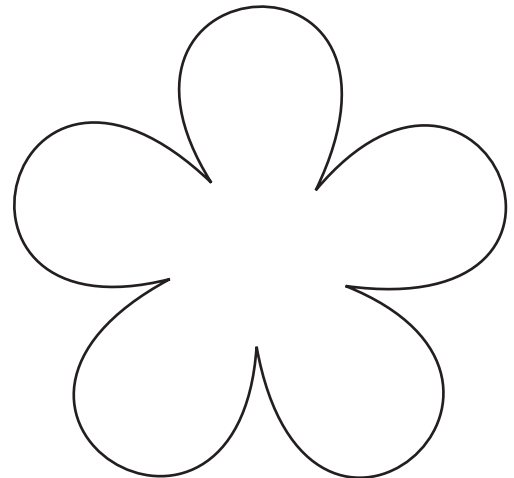

Fig. 5-2
4. Trace the flower pattern onto tracing paper and cut it out. Cut one flower from the contrasting color of faux suede. (Fig. 5-2)